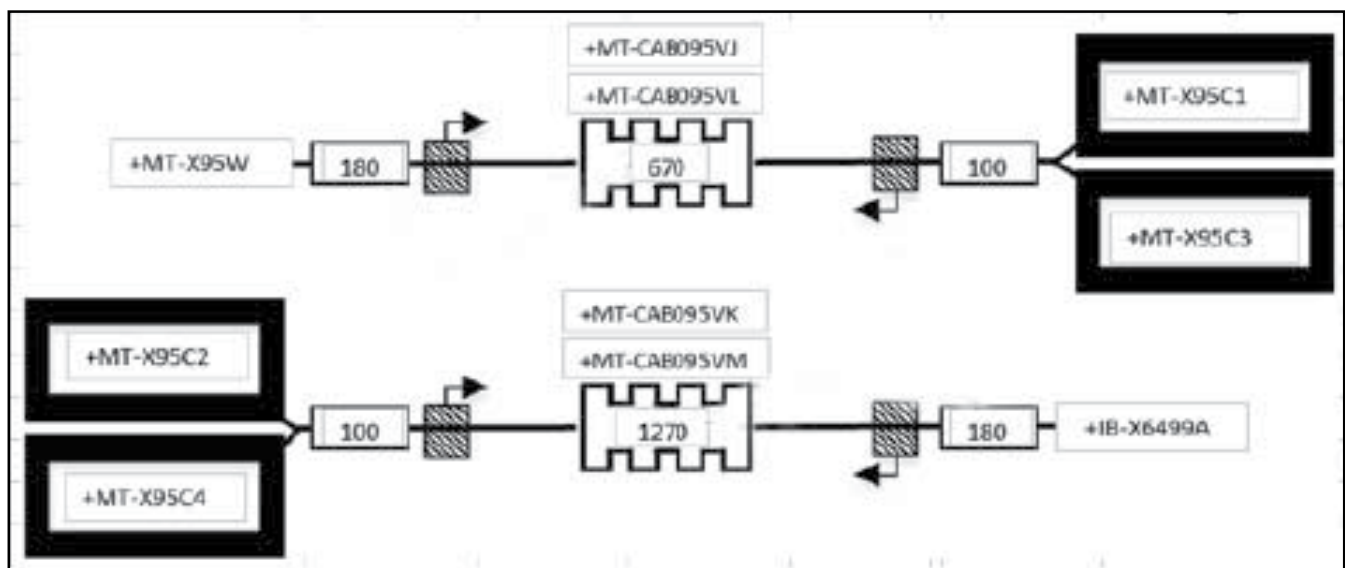

Figure 1 - Replacement Wire Kit
- 1.1. Replacement wire kit N632000435 (see Figure 1).